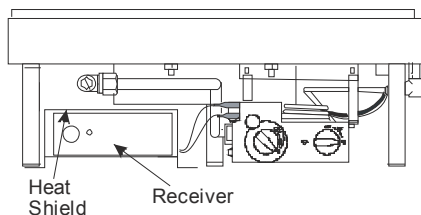

Figure 71
4. Position the receiver under the heat shield as shown in **Figure 71**.